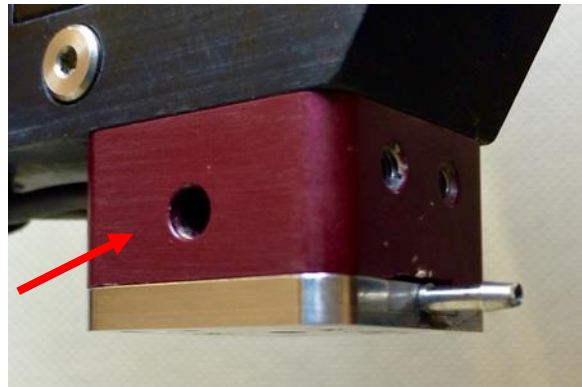

Figure 3-3: Check For Leaks at Weep Hole
- Check to see if fluid leaks out of the weep hole in the heater block shown in Figure 3-3. If fluid is leaking, the diaphragm is either missing or damaged and should be replaced. The heater block will need to be removed and the leaking fluid should be cleaned.